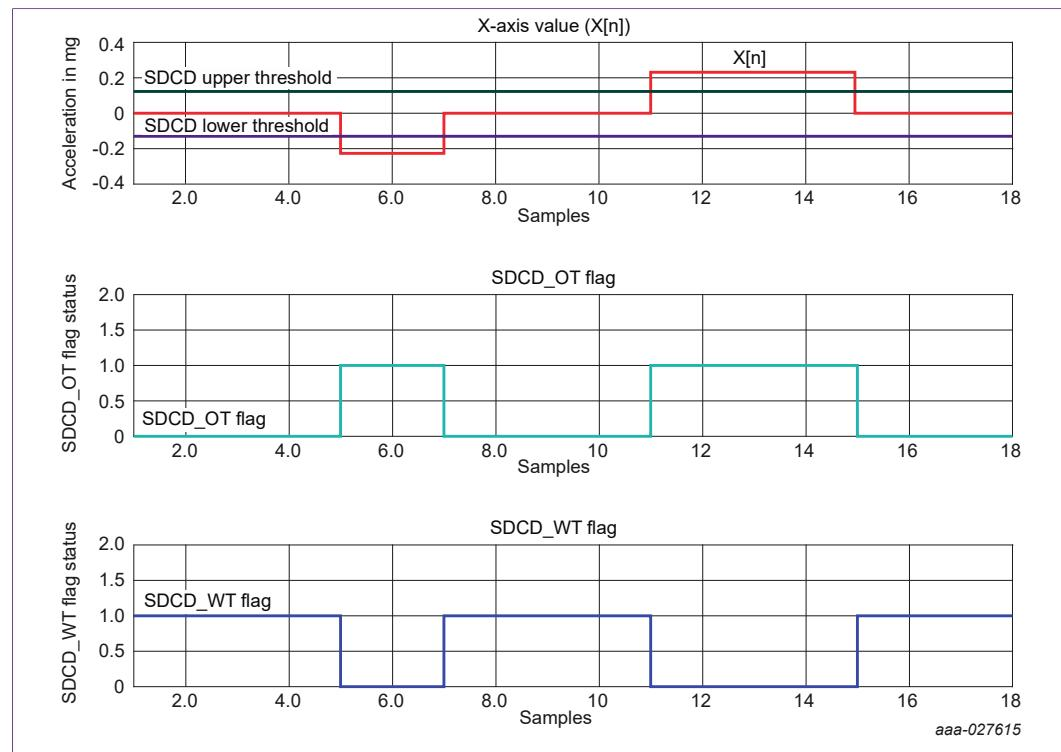
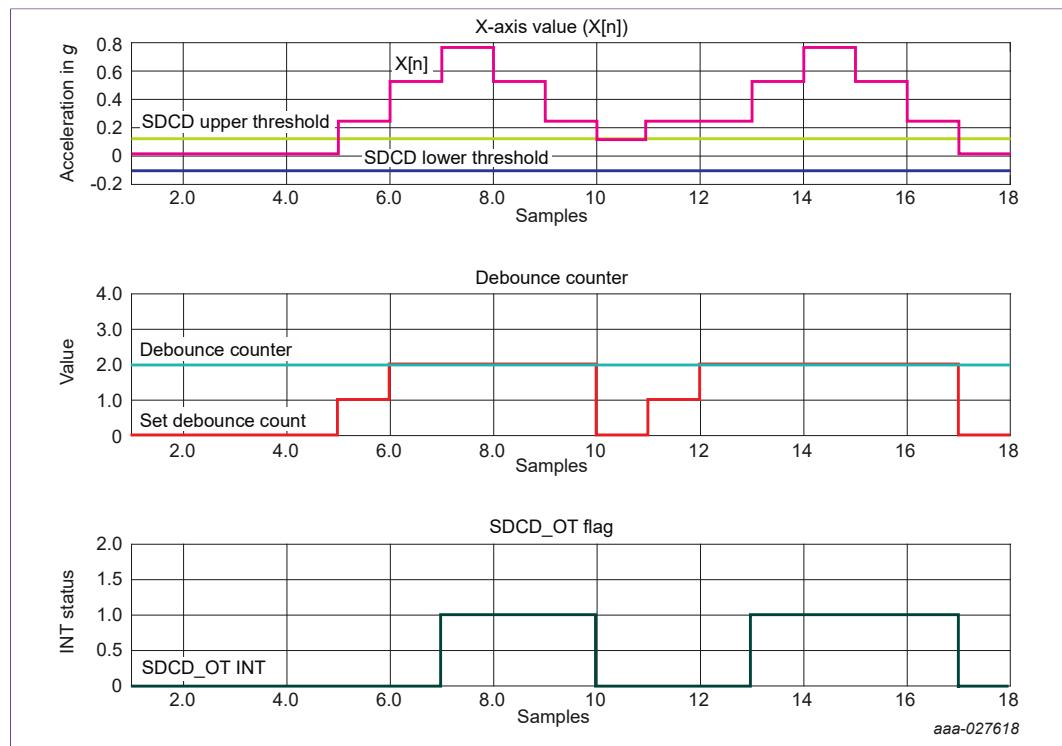
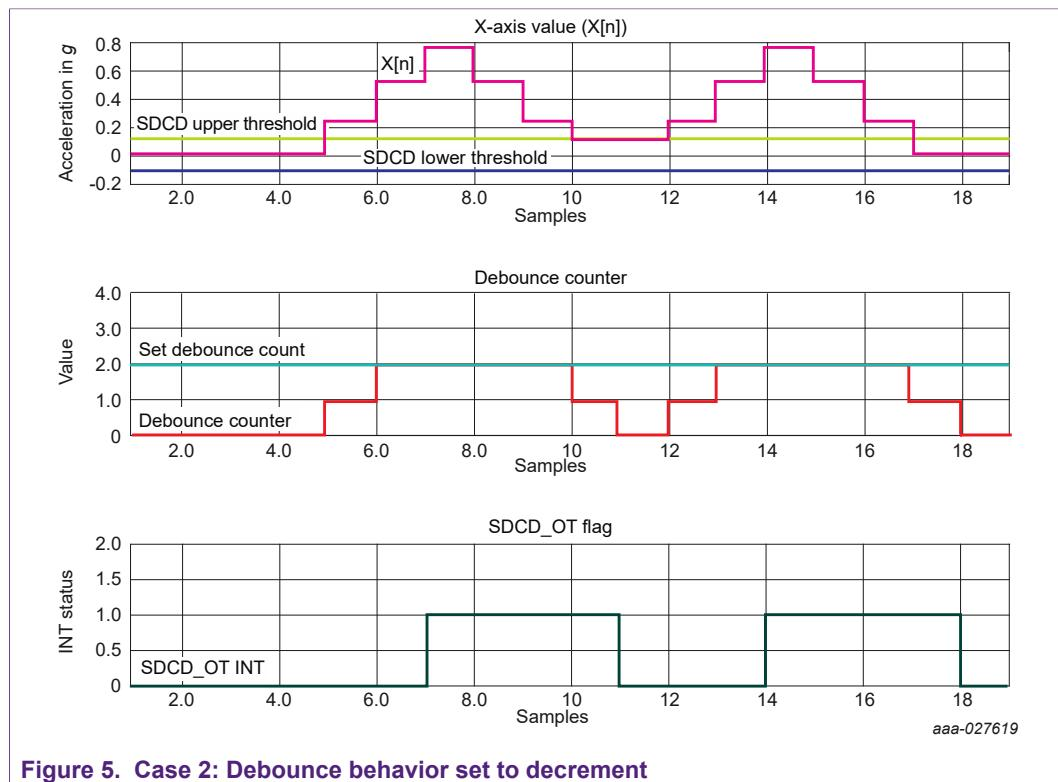

Figure 1. Outside-of-thresholds and within-thresholds event
Figure 4. Case 1: Debounce behavior set to clear
Figure 5. Case 2: Debounce behavior set to decrement
Simply stated, the acceleration data input (X[n], for example) to the SDCD block is compared against a set of user programmable upper and lower thresholds (see Figure 1) in absolute or relative mode. For simplicity, only the absolute mode of operation is presented. The relative mode of operation is covered in Section 2.5 "Reference update modes".
Example: Consider the graph shown in Figure 4, showing the OT event enabled, ODR is set to 100 Hz and debounce time is set to 20 ms (i.e. SDCD_OT_DBCNT equals 2). Thus, when the input signal is greater than the SDCD threshold for the set debounce time period, an interrupt is flagged.
When the debounce count is set to 0 (Figure 1), the interrupt is generated as soon as the input signal meets the threshold criteria for the OT or WT events. The interrupt is also cleared as soon as the condition becomes false.
- 0b11: The function uses a fixed value of 0 for each of the SDCD_REF_X/Y/Z registers, making the function operate in absolute comparison mode.(Example Figure 1, Figure 4, Figure 5 shows the SDCD block usage in absolute mode)